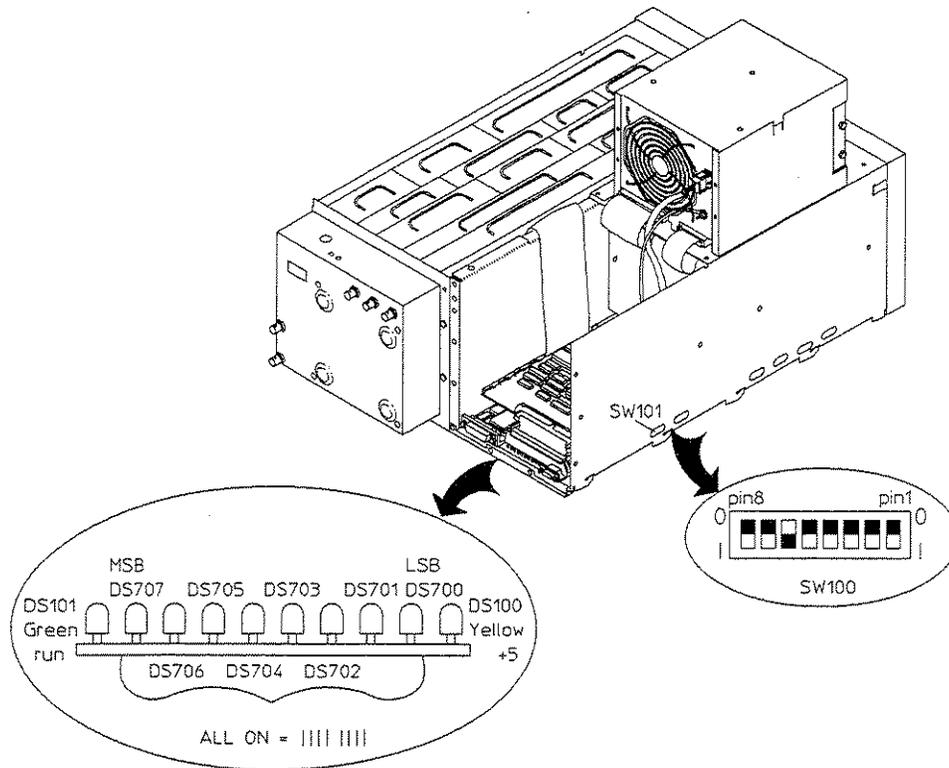

Figure 5-6. Power-on Test LEDs
1. Set the power switch to STANDBY (⓪). On the CPU assembly, set SW100 pin 6 to one and pin 4 to zero. Check that the other pins are set to zero (see figure 5-6).
2. Set the power switch to ON (I). On the CPU assembly, press SW101 (reset switch) while watching the power-on test LEDs (see figure 5-6). The power-on test LEDs pass sequence occurs if the LEDs respond as follows:
3. Set the power switch to ON (I). On the CPU assembly, press SW101 (reset switch) while monitoring the power-on test LEDs (see figure 5-6). The LEDs display fail code hexadecimal F3 (1111 0011) for 10 seconds, then flash hexadecimal 0F. If the LEDs do not respond correctly, the CPU assembly is faulty.